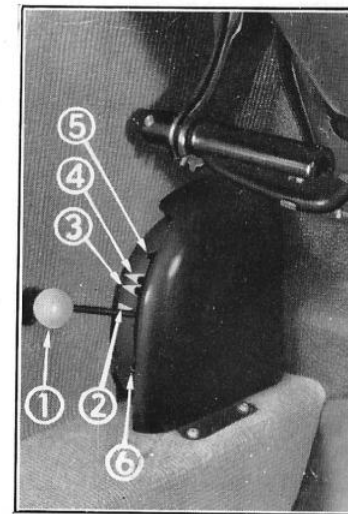

Fig.8 - Adjustment of ground clearance
The control 1 (fig. 8) can be moved to the three positions marked by white bars on its housing. When it is opposite the mark 2 the car is at the normal height.
- Push the lever **1** (fig. 8) as far as possible towards the top, the body will slowly rise.
- Push the control lever as far down as possible at **6** (fig. 8) and wait while the wheels are raised. (The front and rear wheels on the side on which the stand is placed are raised simultaneously).
- Bring the height control lever to the high position **5** (fig. 8).